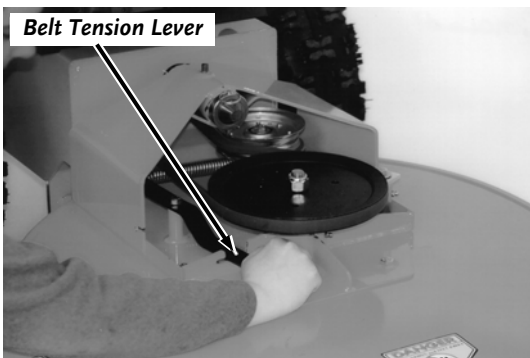

Figure 29
2. Release the Belt Tension Lever (**Figure 29**).